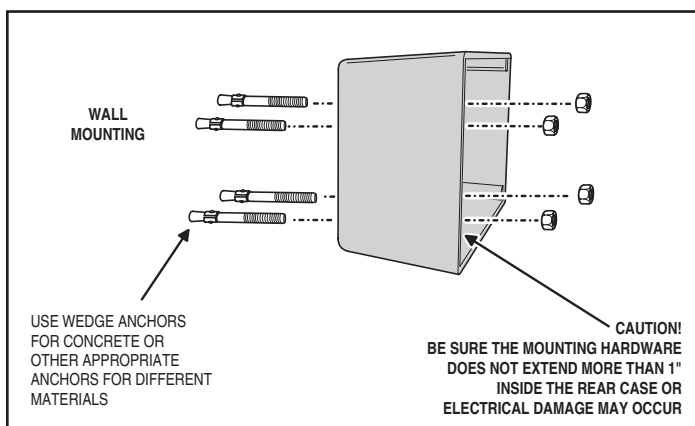

Figure 3. Wall Mounting
2. Use the appropriate fasteners to secure the system's backplate to the mounting surface. When mounting the system to a concrete wall, use concrete wedge anchors (see Figure 3).